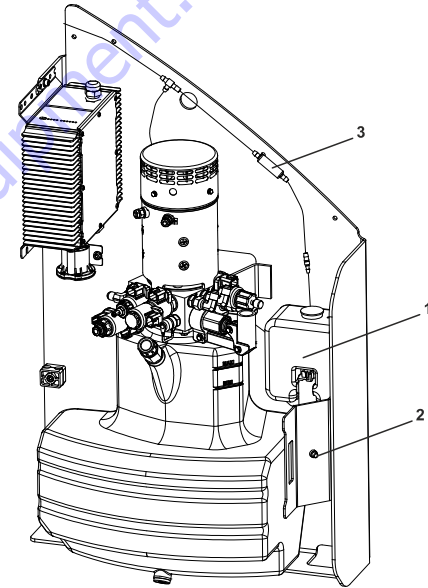

Figure 5-5. Adding Water to Batteries
- Disconnect and clean the **filter (3)** (See Figure 5-5.) by reversing the water flow from the normal direction.